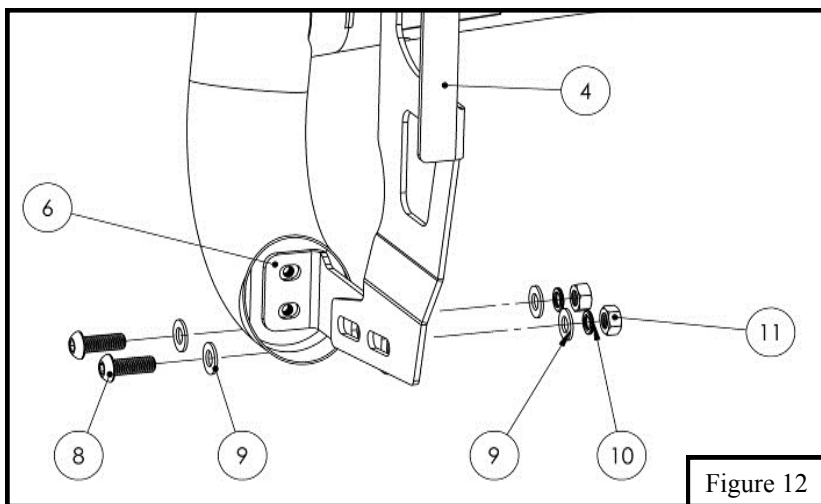

Figure 12
11. With assistance, loosely install the bull bar to the mounting brackets using the supplied M12 hardware (8-11) according to **Figure 12**.